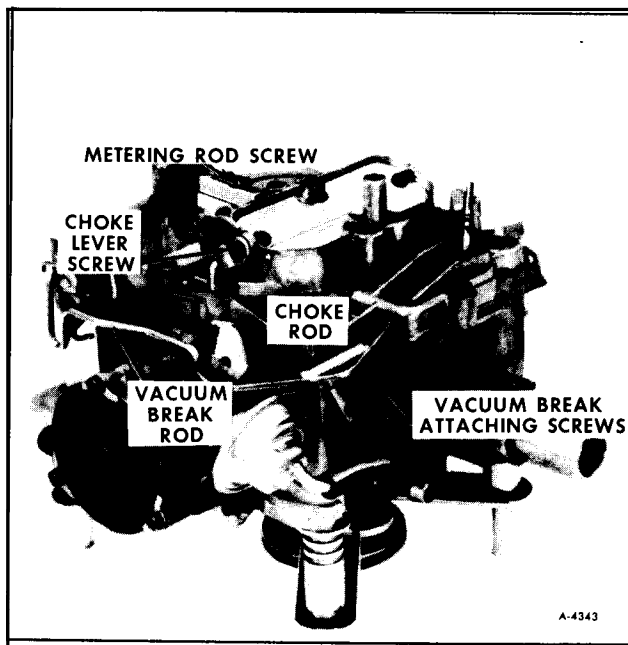

Figure 10—Carburetor Assembly
2. Remove upper choke lever from the end of choke shaft by removing retaining screw (figure 10). Then remove the upper choke lever from the end of choke rod and choke rod from lower lever inside the float bowl casting.